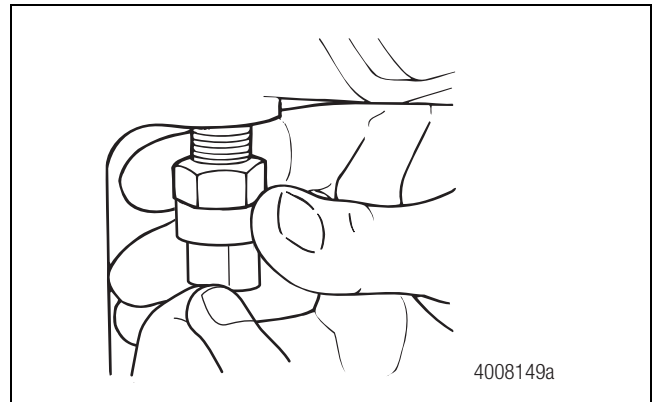

Figure 6.15
- With the differential lock disengaged, connect the volt-ohm meter to the sensor switch. Screw the switch into the housing until the contact is broken and the reading switches to infinity. Figure 6.15.